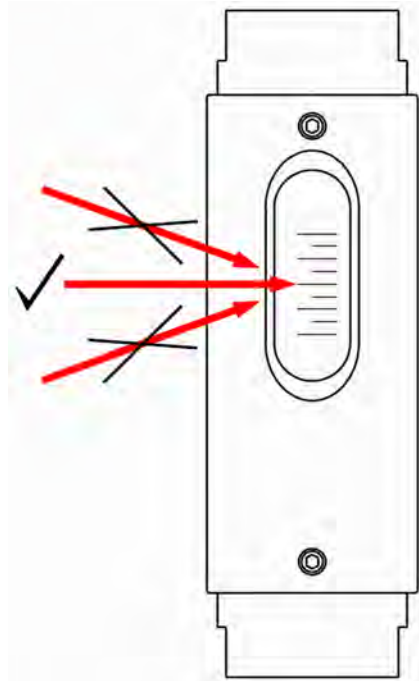

Fig. 35: Reading-off the measuring scale
2.  To obtain greatest reading accuracy, read-off at eye level. (Fig. 35, middle arrow). The read-off value can be falsified by viewing at an angle